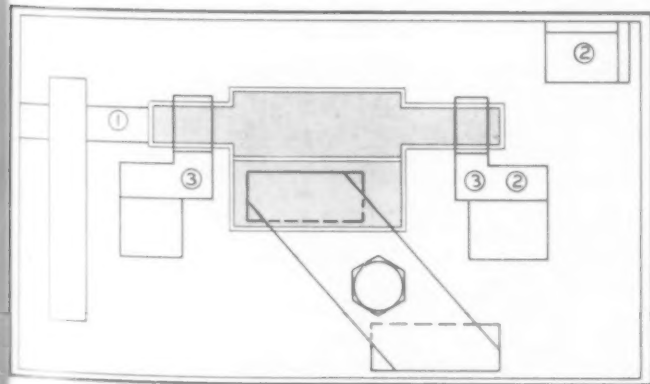
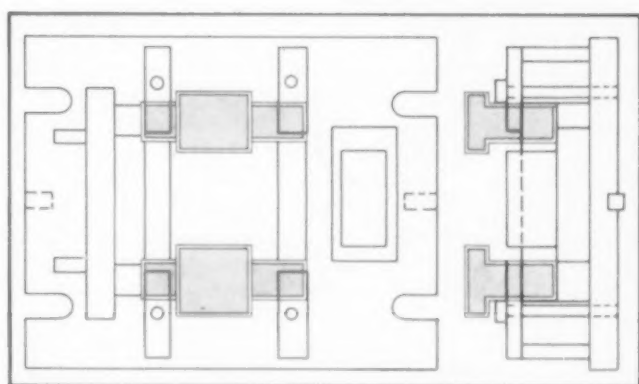

FIG. 19
FIG. 20
Fig. 19. shows the plan view of a milling fixture. The work rests and is held against a combination rest and stop (3). The milling thrust is taken by a stop (1). The work is held down by a strapclamp, which is cut under an angle to gain some length. In this case the work is to be milled on two faces (marked by a heavier line) which sit higher than the blocks (marked by a lighter line) which sit below them, are the faces of hardened and ground gage blocks, 2, for setting the cutter. These blocks are so ground that their use requires a 1/64 in. shim, indicated on the drawing.
Fig. 20. Plan and side views of a double milling fixture. While one part is being milled, the other side can be unloaded and reloaded. The principal parts of the fixture are the same as explained in Fig. 19. The fixture also shows slots in the base plate, fitting the long slots in the milling machine table to hold down the fixture, and two keys to align the fixture with the centerslot of the machine table.